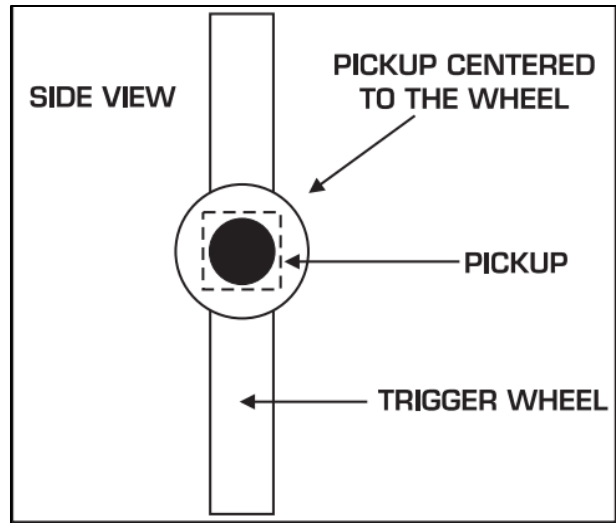

Figure 2: Pickup Centered on the Trigger Wheel.
2. Install the bracket onto the engine. The bracket is designed to be mounted on the passenger side of the balancer. Use the correct length bolts and shims in the proper location to insure the wheel is centered with the pickup. **(Figure 2)**